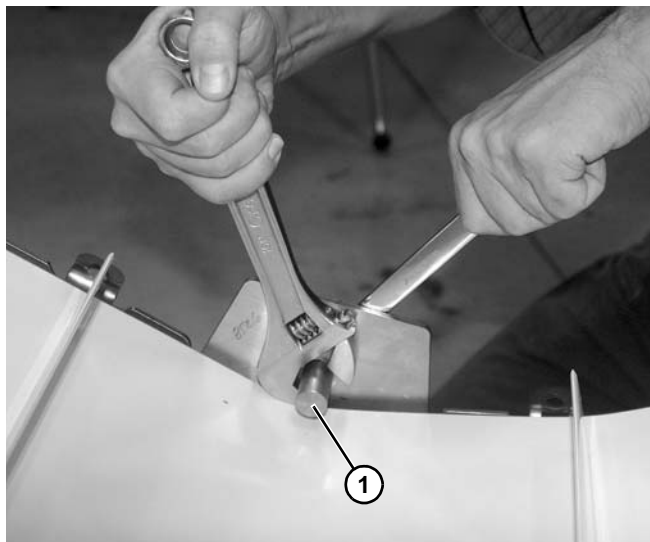

Figure 192
4. Use two wrenches to loosen and remove hex post (Figure 192, item 1) from lower knuckle plate.